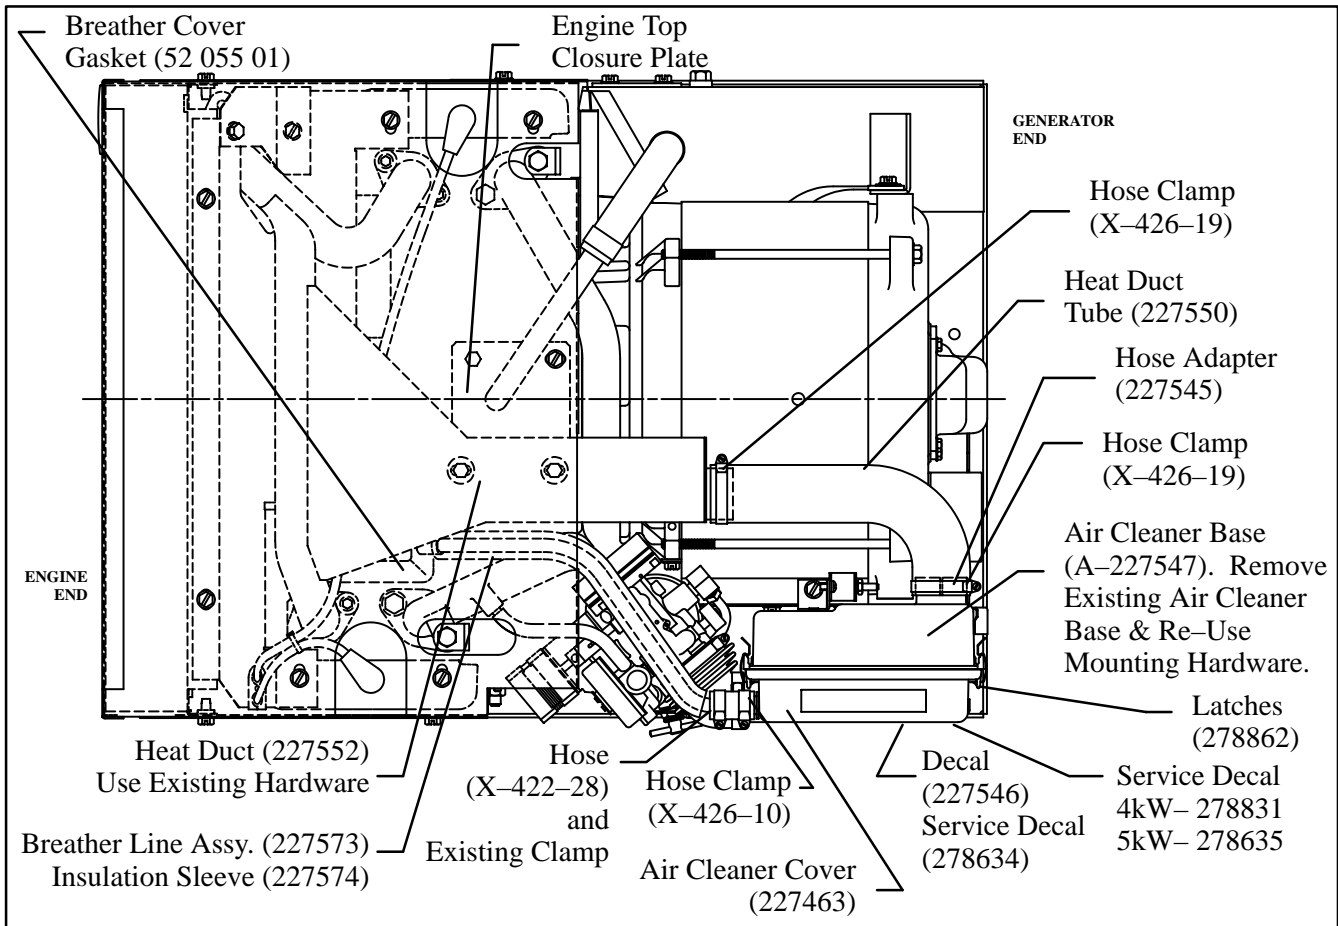

Figure 2. 4/5kW Installation Drawing
14. Remove two screws on the engine's top closure plate. See Figure 2 for location. Position heat duct (227552) to top closure plate. Slide heat duct up against exhaust manifold. **DUCT MUST TOUCH MANIFOLD.** Secure by re-using existing hardware.
17. Affix winter-summer decal (227546), service decal (278634) and decal (278831 or 278635) at positions shown in Figure 2.